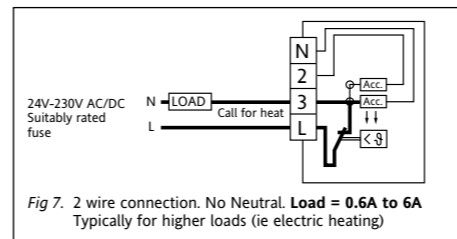

Fig 7. 2 wire connection. No Neutral. **Load = 0.6A to 6A**
Note: Use this connection for gas CH systems, where there is no neutral wire, and follow set-up procedure. If current reading above 0.6 amps, wire as Fig 7. 2 wire connection no Neutral.
- If reading is **ABOVE 0.6A** wire as Fig 7 (isolate electric supply before rewiring)